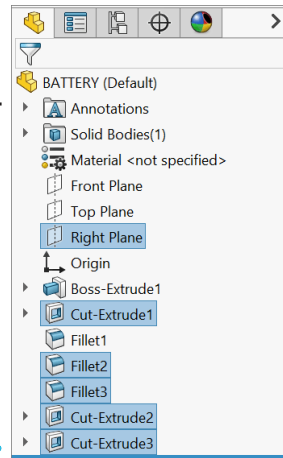

Fig. 29
Step 1. Ctrl click Right Plane , Cut-Extrude1, Cut-Extrude2, Cut-Extrude3 and both terminal cut Fillets feature to select plane and features, Fig. 29.